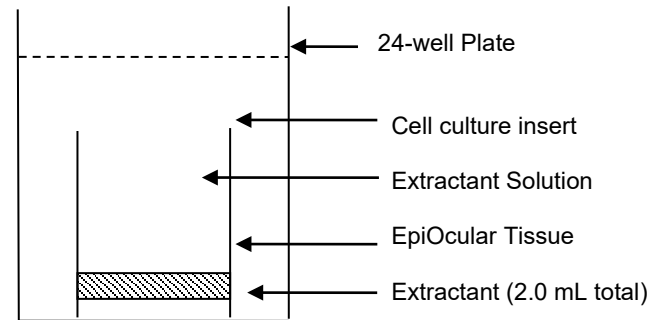

Figure 4: Extraction Configuration (room temp., in the dark)
b) **Add extractant:** Immerse the inserts using 2.0 mL of extractant solution per well, completely covering the EpiOcular tissue. See Figure 4. Cover the extraction plate to reduce evaporation of extractant. Note: If the test article is colored and/or does not completely rinse off the tissue, pipet 1.0 mL into the well so that the MTT is extracted through the bottom of the tissue culture insert. After extraction is complete, remove the insert and add an additional 1.0 mL of extractant to bring the total volume up to 2.0 mL.
c) **Extraction conditions:** Place the extraction plate with its top in place in a sealable plastic bag (e.g. Zip-lock) to minimize extractant evaporation. Allow the extraction to proceed for 2 hours at room temperature (RT) on an orbital shaker or overnight (no shaking) at RT in the dark. Protect plate from light while shaking with aluminum foil. Shaking should be vigorous enough for some mixing within the wells, but not fast enough that liquid will leave the wells. Note: It is often most convenient to allow the extractions to proceed until all samples are complete so that all MTT readings can be made at once. As long as evaporation of solvent is prevented, extraction times beyond 2 hours will not affect MTT readings. If you are using your own reagents, the extractant should **not** contain acid (e.g. hydrochloric acid).